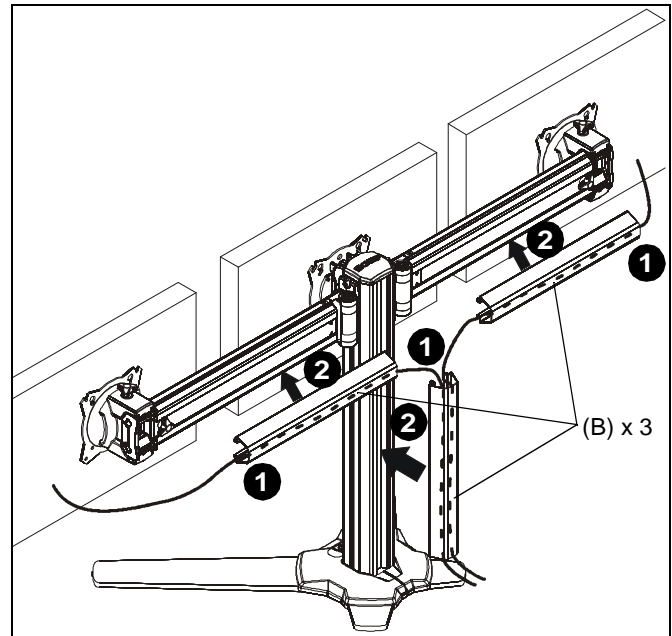

Figure 19
1. Route cables from display through cable management covers (B) as desired. (See Figure 19)
2. Install cable management covers (B) onto array (A). (See Figure 19)